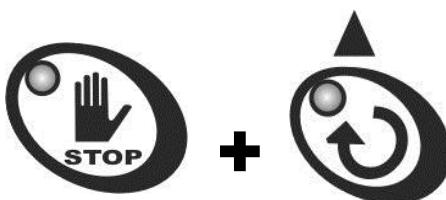

Fig.1
3. With the machine at STOP, press the “**STOP**” and “**AGITATION**” keys simultaneously and release them only after the password identification screen appears (fig.1).